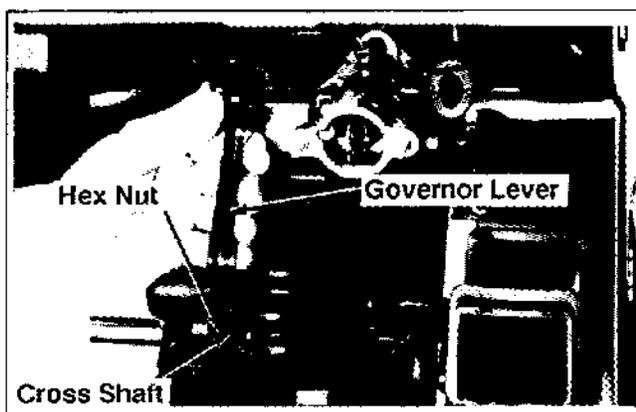

Figure 11-43. Adjusting Governor Lever.
6. Adjust the governor lever/governor gear. See Figure 11-43.